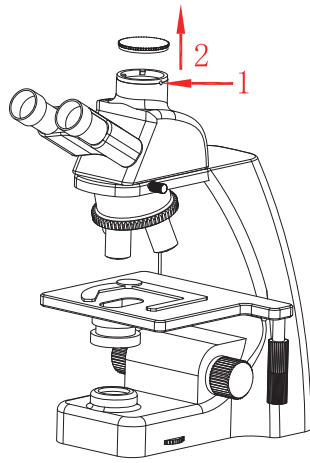

Figure 13
- (1) Remove the dust cover of microscope dovetail slot or standard C -mount, as shown in Figure 13.